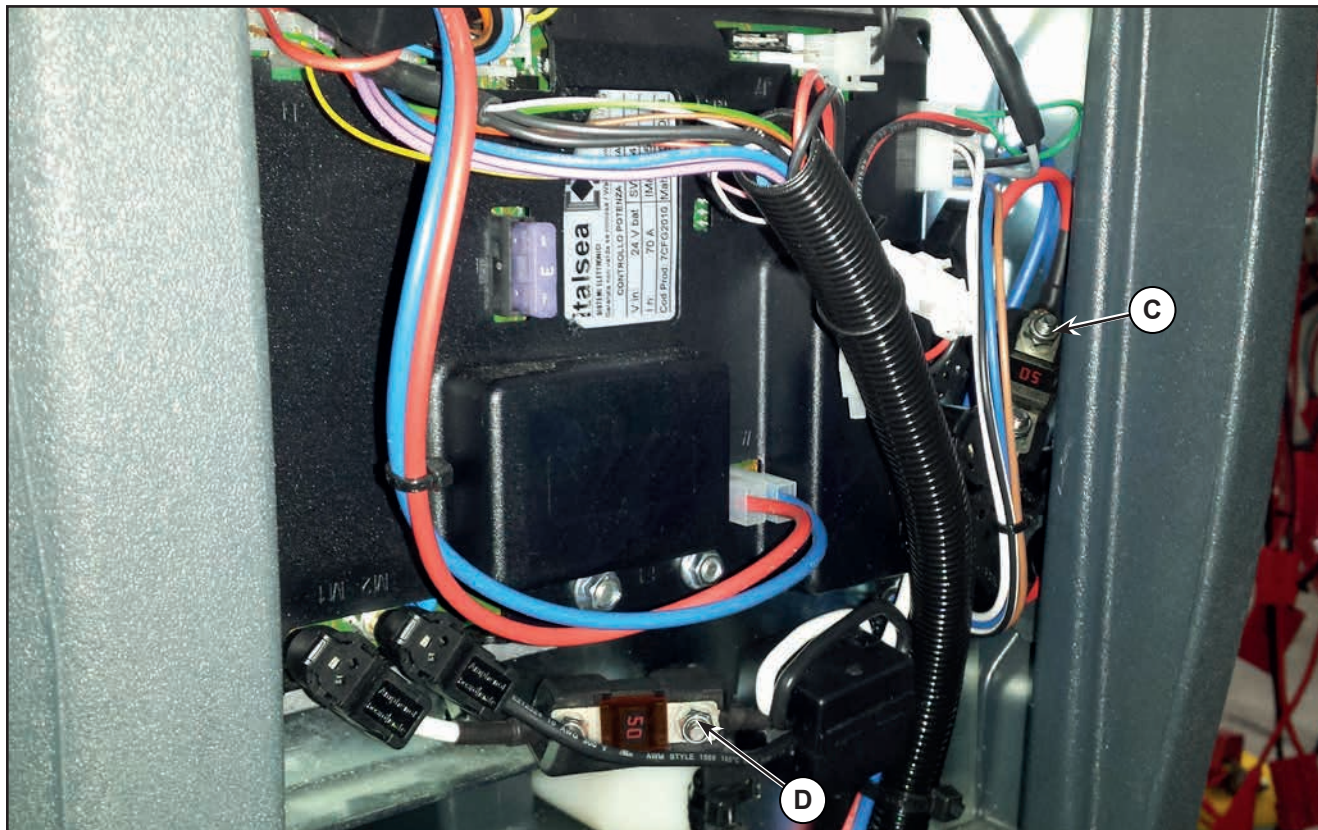

Figure 10:
8. Remove the protection cover of its fuseholder, then check/replace the following fuses (Figure 10):
- (F3) 50A midi fuse - Brush motor (C).
- (F4) 50A midi fuse - Drive system motor (D).